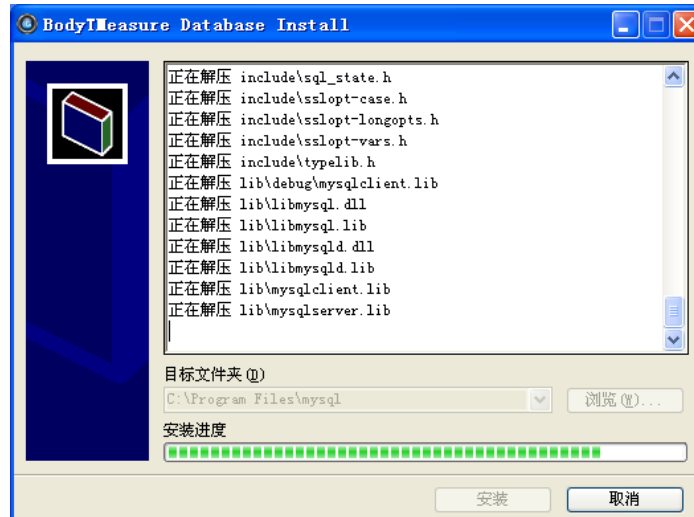

Fig. 3.2.1 Database installation interface
- Enter the database installation interface, such as Fig. 3.2.1